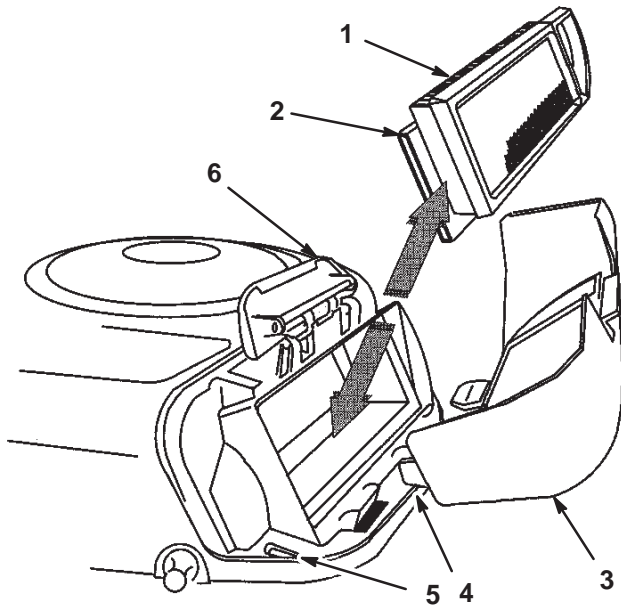

Figure 23
- 4. Carefully slide the paper element and foam element from the blower housing (Fig. 23).
2. Align the tabs on the air cleaner cover with the slots of the blower housing (Fig. 23). Hook the handle onto the cover and press down on the handle to lock the cover in place.